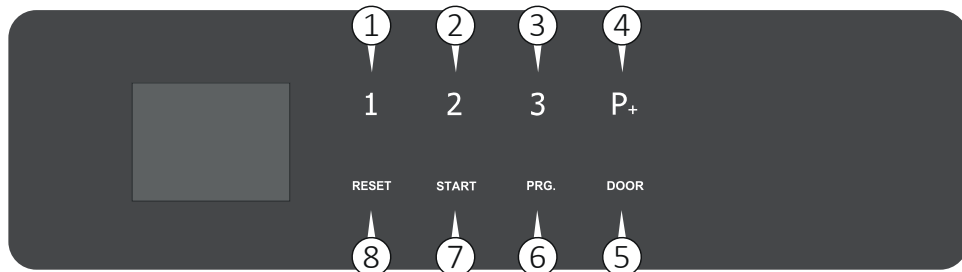

Fig. 15
To select the programs available, use key P1, P2 or P3 (see Fig. 15) depending on the most suitable program for the level of dirt of the load.
- Open the door (key 5 Fig. 15) to introduce the racks.
- Close the door and push it until the lock is activated. The door can be unlocked and opened at any time before the program starts, by pressing the DOOR key (5 Fig. 15).
To select the programs available, use key P1, P2, P3 or the key P+ (to select programs from 4 to 40) on the control panel (Fig. 15).
To start a program, press the START key (7 Fig. 15).
The message «Finish» with a green background on the display indicates that the program has been carried out correctly. Unlock the door by pressing the DOOR key (5 Fig. 15) and open it.